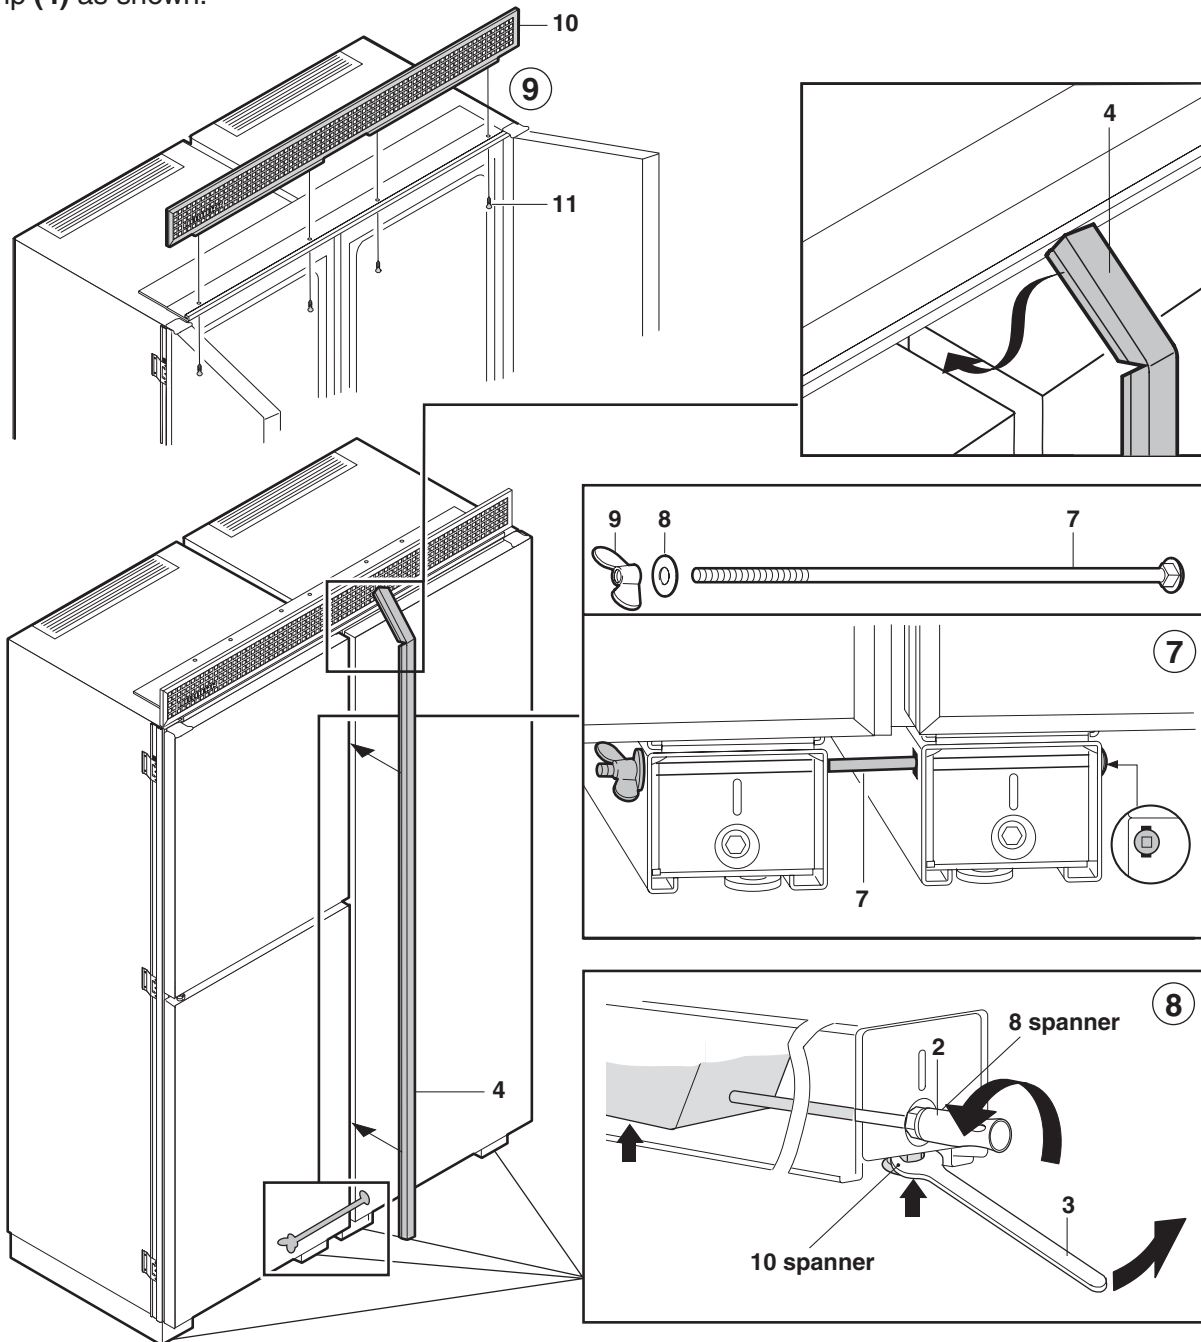

Figure 27
7. **Figure 27:** Push the long carriage bolt M5x260 (7) through the leveling wheels as shown. Fit in a washer (8). Screw on the wing nut (9) and tighten it *manually*. Do not overtighten.
9. Secure the ventilation grille (10) to the appliance with screws (11). Push in the sealing strip (4) as shown.